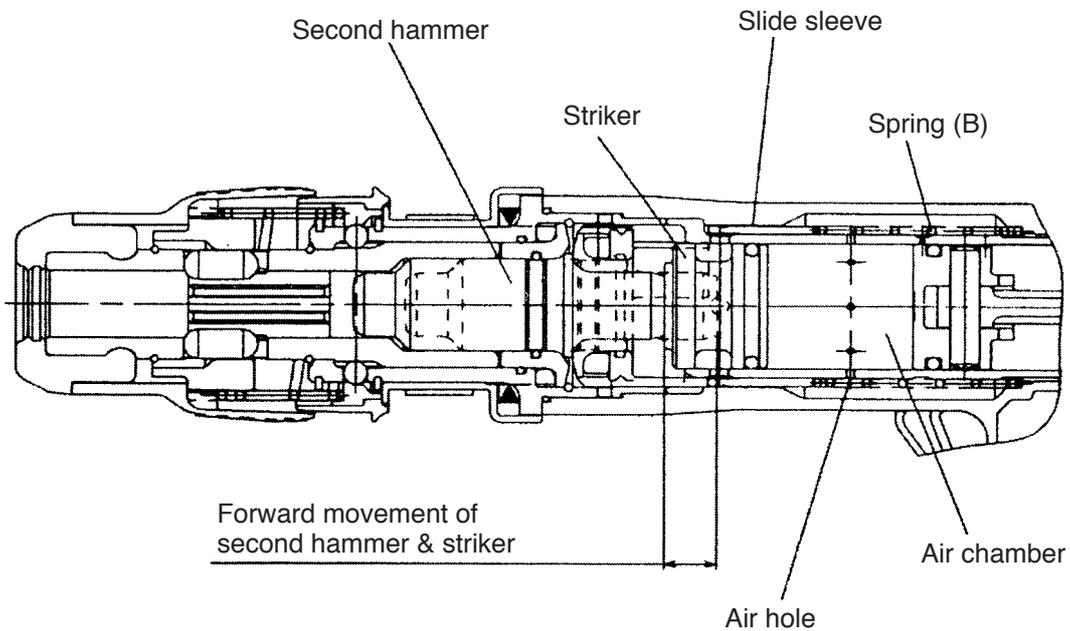

Fig. 6
When the bull point is released from the concrete surface, the slide sleeve and the second hammer are forcibly moved to the position illustrated in Fig. 6 by spring (B), and the striker moves out of striking position. When this occurs, the air holes located at the position unaffected by the rebound of the striker at no load are opened and the pressure within the air chamber remains unchanged even though the piston continues to reciprocate, thereby preventing striking operation.